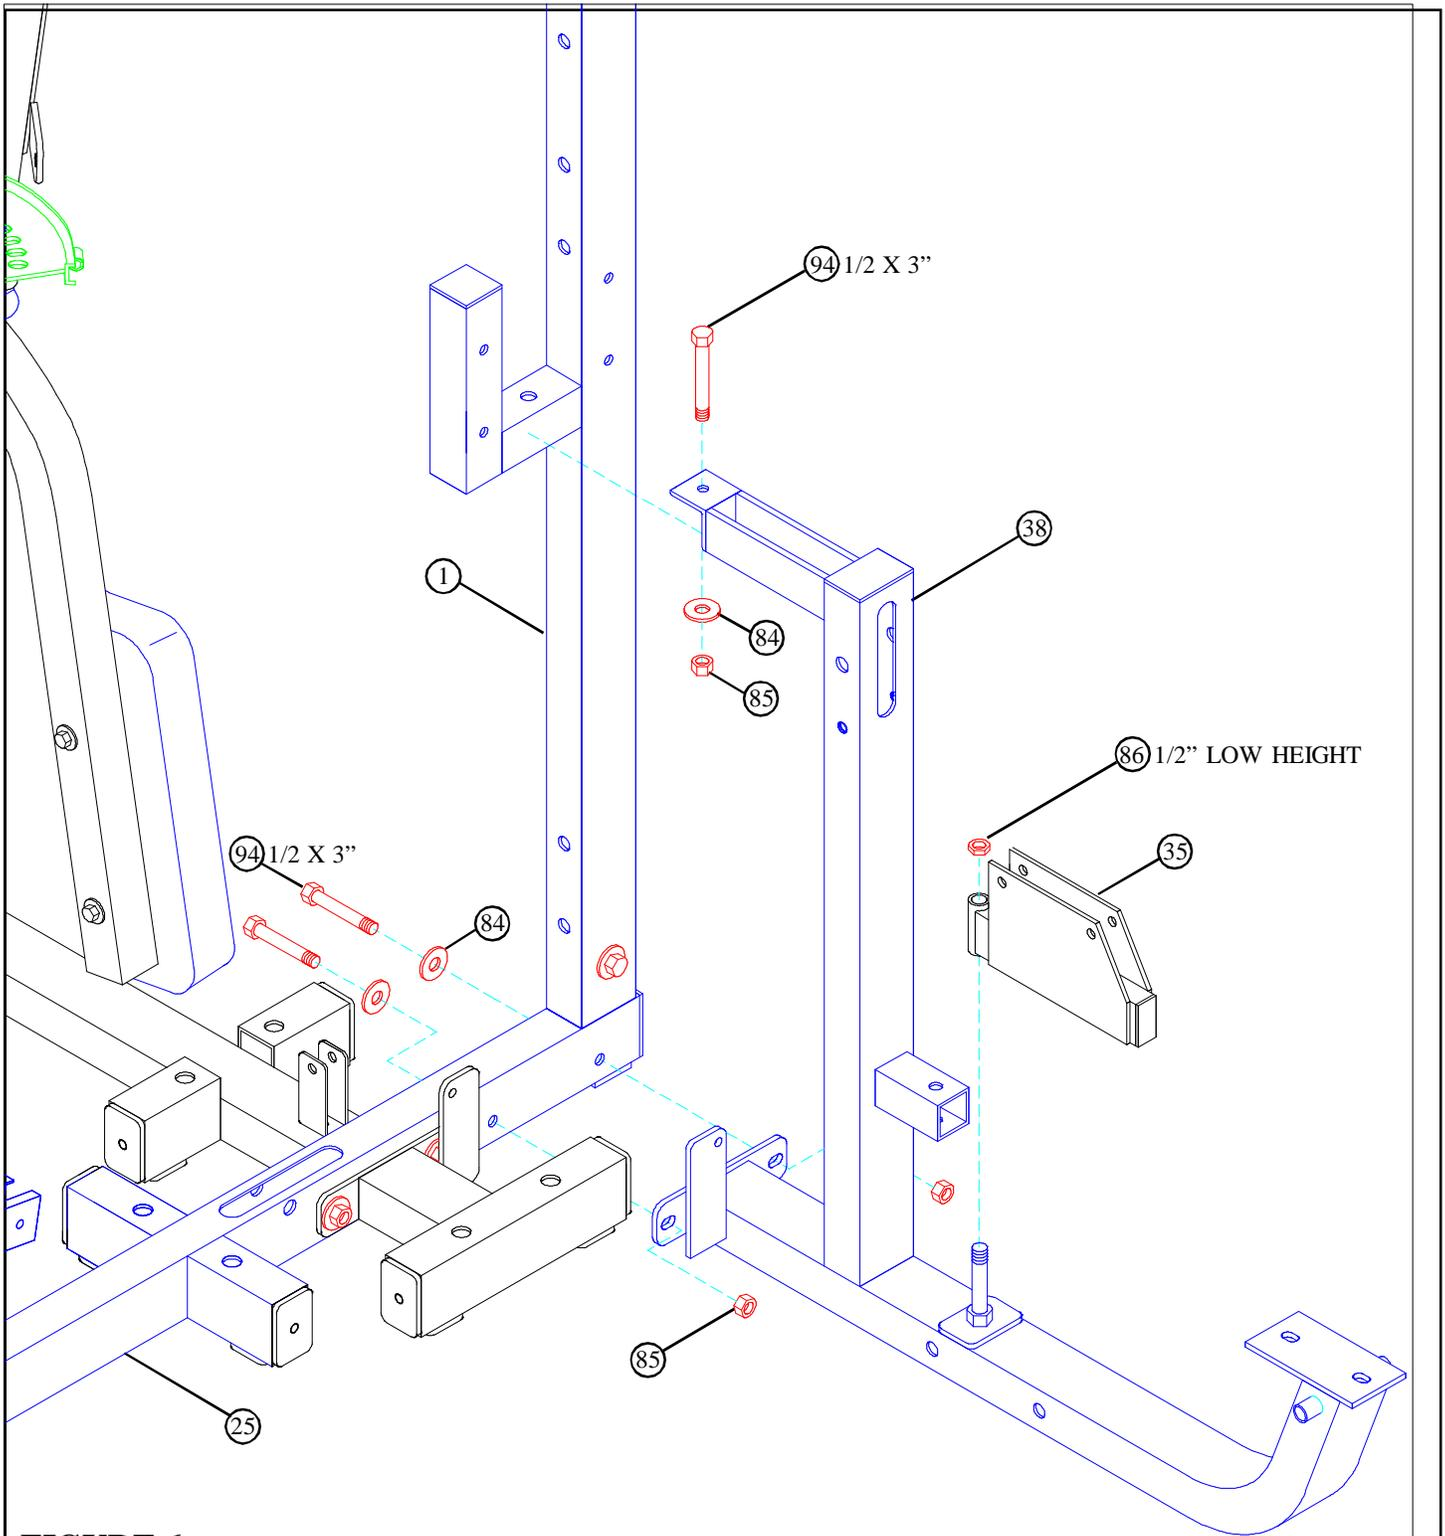

FIGURE 6
- **SECURELY** assemble the PRESS BASE (38) to the BASE (25) using two 1/2 X 3" BOLTS (94), two 1/2" WASHERS (84), and two 1/2" LOCK NUTS (85), and to the REAR UPRIGHT (1) using one 1/2 X 3" BOLT (94), one 1/2" WASHER (84), and one 1/2" LOCK NUT (85) as shown in FIGURE 6.
- Assemble the SWIVEL PULLEY BRACKET (35) to the PRESS BASE (38) using one 1/2" LOW HEIGHT LOCK NUT (86) as shown in FIGURE 6. (NOTE: Securely tighten, then back nut off 1/4 turn to allow the SWIVEL PULLEY BRACKET to rotate freely.)